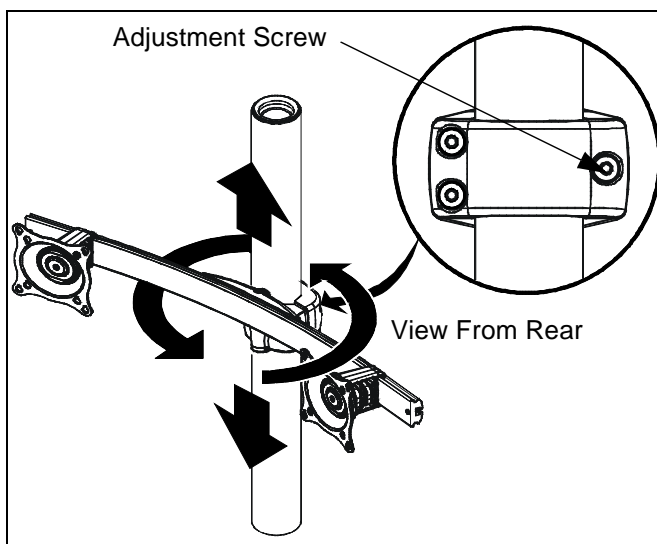

Figure 11: Pole Mount Adjustment
1. Loosen single (right) rear adjustment screw. (See Figure 11)
2. Move array to desired position. (See Figure 11)